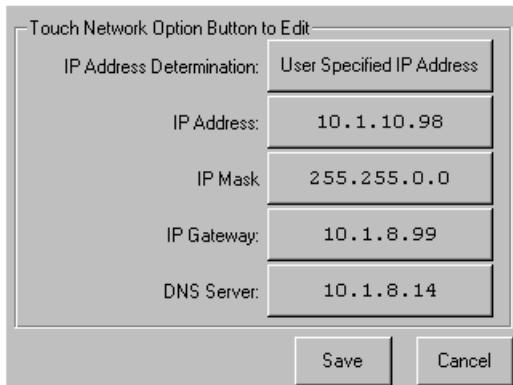

Figure 33 Fixed IP address screen
5. Touch each **IP Address** option and then use the keypad to enter each IP address (see Figure 33).